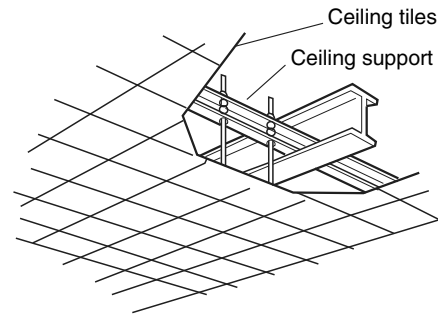

Fig. 3-72
- Use existing ceiling supports or construct a suitable support as shown in Fig. 3-72.